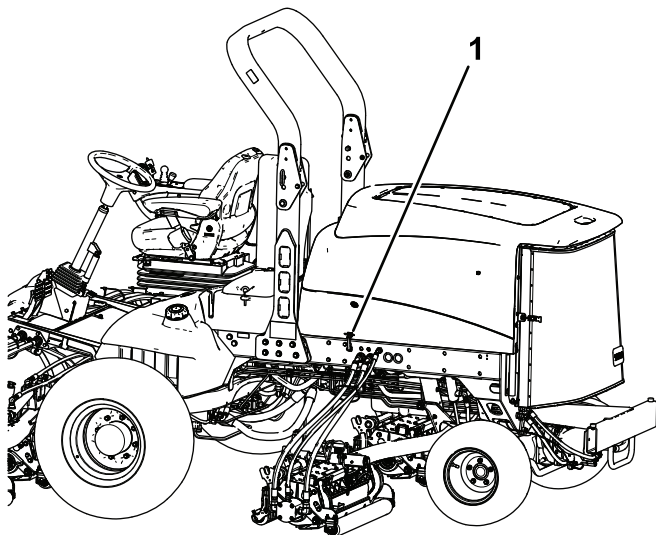

Figure 34
2. Unlock the hood latches and open the hood (Figure 34).